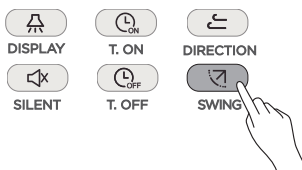

Figure 3.10
- 1) When the unit is on. Press  (see Figure 3.10). Start the swing function, and the  icon will light up, and signal is sent to the indoor unit;